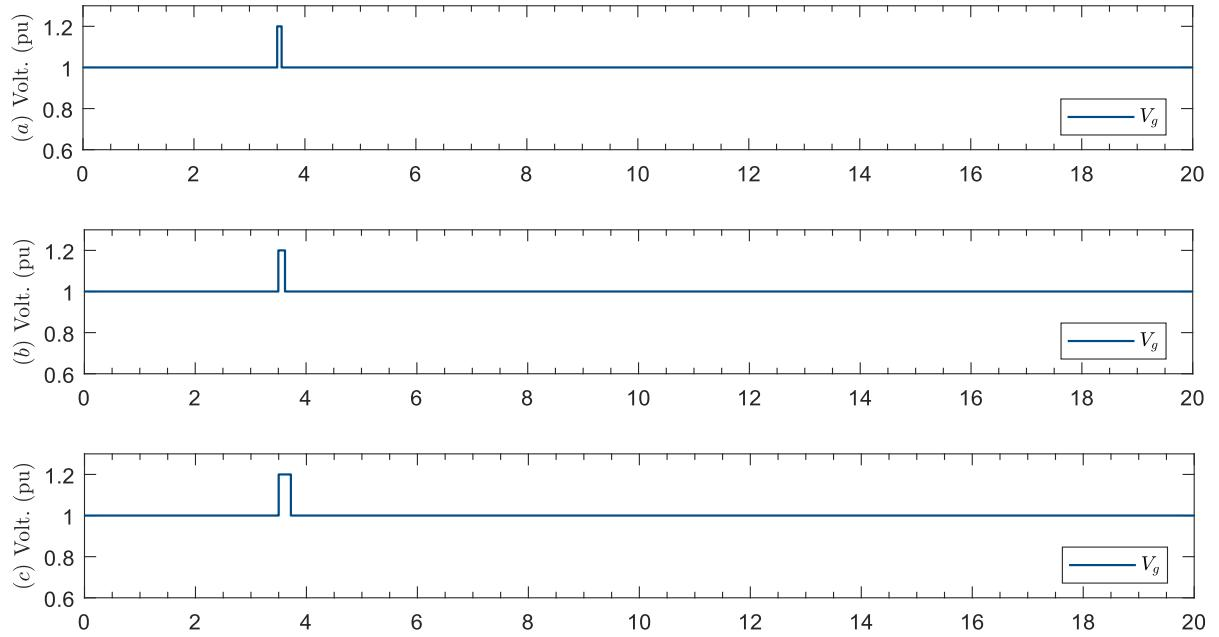

Fig. 15: Voltage swells of 1.2 p.u for duration of 80, 120, and 220ms
- (b) From 230V to 270V, then 270V to 230V, for duration of 80, 120, and 220ms -See Fig. 15.